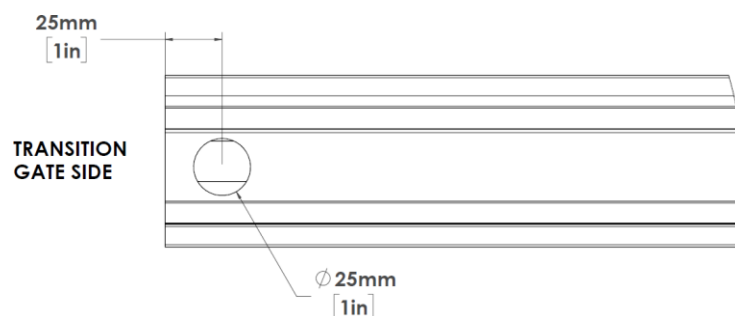

Figure 88: **Traversing Track Hole**
- a. Drill a 1" diameter hole 1" from the gate side of the traversing track, centered across the width of the track, as shown in Figure 88.